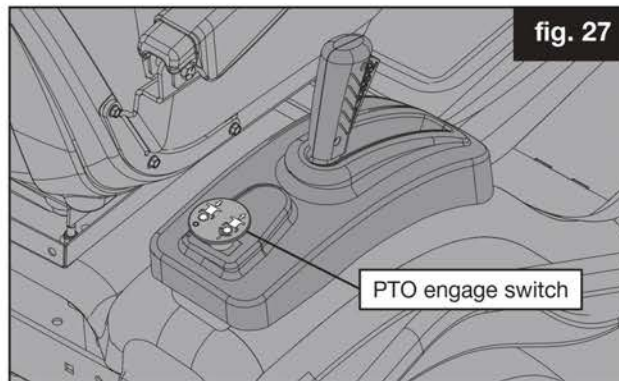

fig. 27
The PTO switch (fig. 27) must be set to position 0 (disengaged). Engaging the PGC before attempting to start the tractor will prevent ignition.
2. Pull the PTO switch (fig. 27) to position 1 to start the PTO clutch.
1. Push the PTO switch (fig. 27) to position 0 to disengage the PTO drive belt.